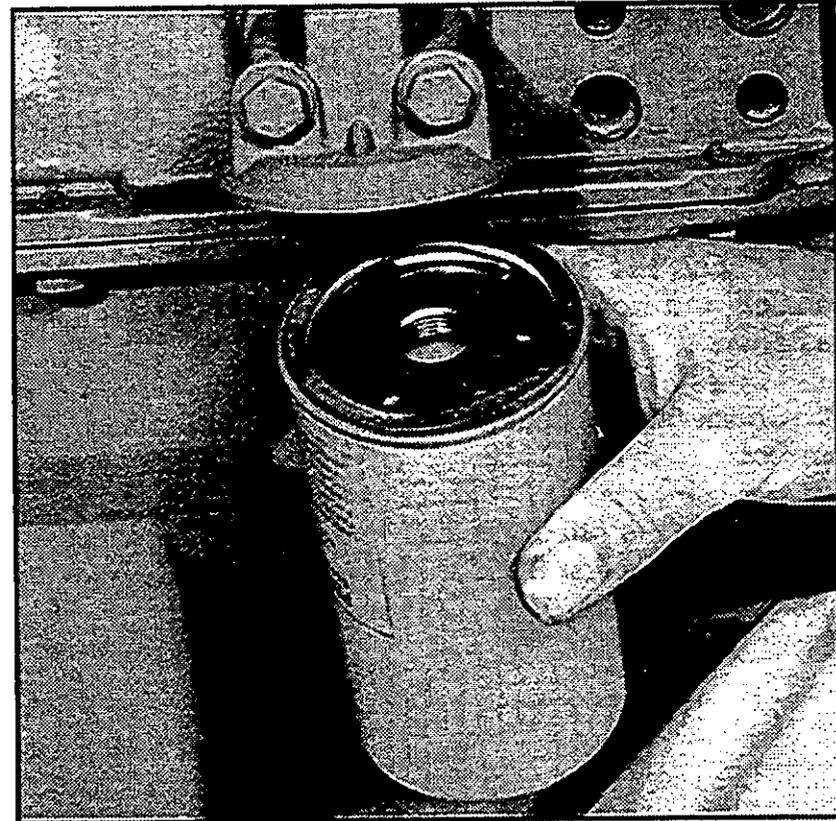

Fig. 11 To renew lubricating oil filter canister
- 2 Remove the filter canister (see fig. 11) with a strap wrench or similar tool and discard the canister.